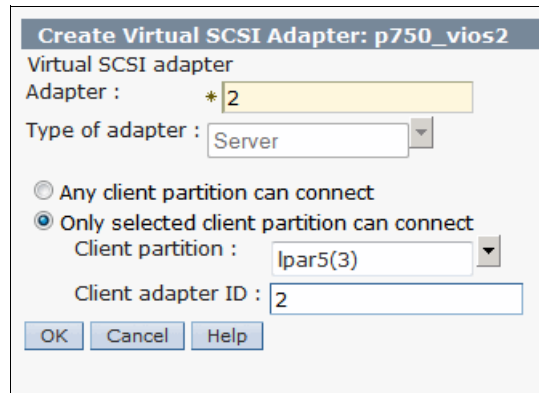

Figure 4-16 Create Virtual SCSI Adapter panel
- In the next window, you create the new Virtual SCSI adapter, as shown in Figure 4-16. If the clients are not known to the HMC, select **Any client partition can connect**. If you select this option, you have to change the client partition options to the correct name of the client after you create the clients. If you know which client partition is connected, select **Only selected client partition can connect**. Then, choose the client adapter ID number. Click **OK**.